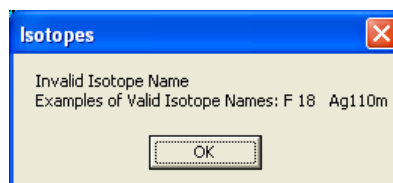

Figure 6-3
**Note:** An isotope name can be entered only in a specific format; which is the symbol of the element (alphabetical character) followed by the atomic mass (number). If the element symbol is one character, be sure to insert a space between the character and the number. If the element symbol is two characters, do not insert a space between the character and numbers. If entered otherwise, an error message will appear as shown in Figure 6-3.